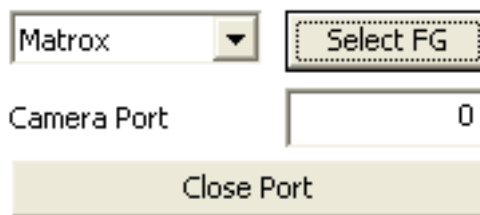

Figure 6.4: Frame grabber selector and camera port setting
2. Enter the correct camera port number in the Camera Port edit box (see Fig. 6.4).